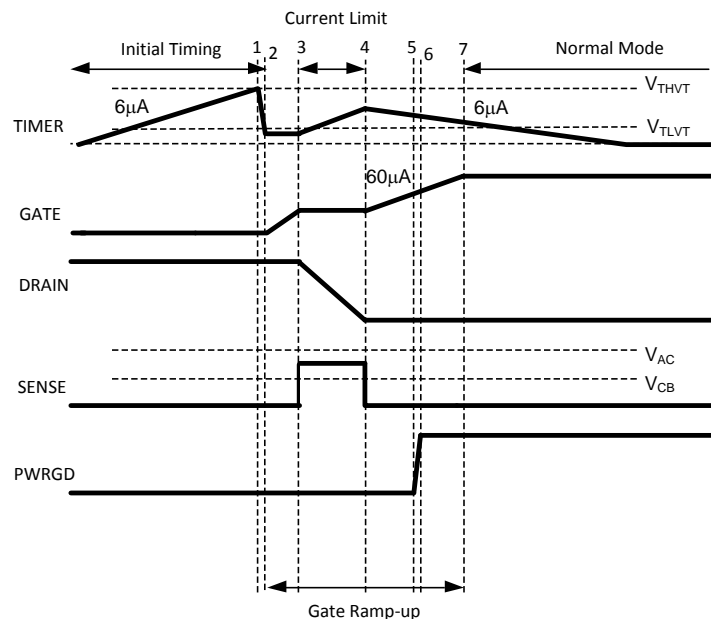

Figure 27. System Power-Up Timing Behavior
Assuming all of the initial conditions are met, the power-up sequence starts with Timer capacitor (C_T) getting charged. C_T is charged with $6\mu\text{A}$ current source up to V_{THVT} (4V) then quickly discharge to V_{TLVT} (1V). At time point (2) the $60\mu\text{A}$ GATE current source is enabled. The GATE voltage increases until the MOSFET starts conducting causing the SENSE voltage to increase until Active Current Limiting is activated (3). During the current limiting period (3-4), C_T is charged again, but there is not enough time to reach the 4V threshold before the load capacitor is fully charged and the SENSE voltage falls below V_{CB} . The GATE continues to fully enhance the MOSFET and activating the PWRGD when the GATE voltage exceeds 8V (see Figure 27).